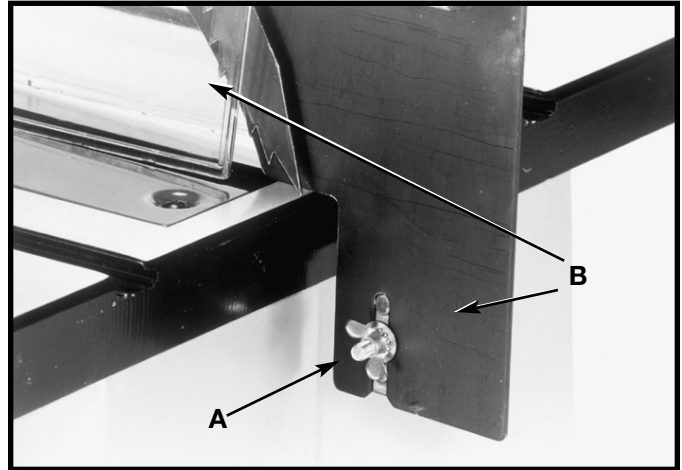

Fig. 54
Before dadoing, loosen wing nut (A) Fig. 54 and take off the blade guard and splitter assembly (B). Keep assembly handy to replace it after dadoing.